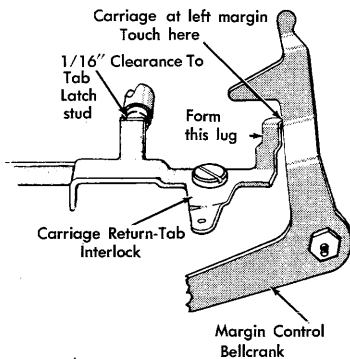

Figure 28. Carriage Return-Tab Interlock Adjustment
- c. With the carriage at the left margin, form the interlock so that it clears the tab latch stud by about $\frac{1}{16}$ " when the left-hand lug on the interlock is in contact with the margin control bellcrank (Figure 28).